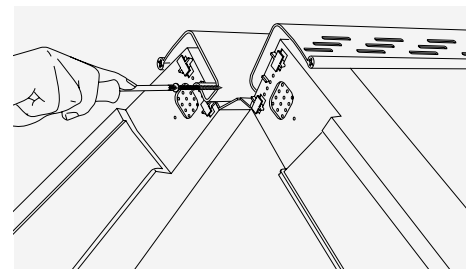

Fig. 11 – Screw verge units at apex of verge
- 12 At apex of roof, where battens are located, retain top course dry verge unit by securing a 30mm long screw (supplied in the fixing kit) into second series of holes in verge unit and locate it behind nib section of dry ridge batten (Fig. 11).